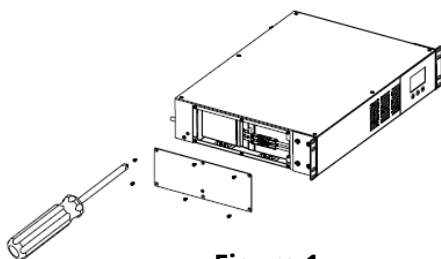

Figure 1
2. Remove the six anchor screws holding the battery door on the left hand side of the UPS. Pull the panel off and set it aside (**FIG. 1**).